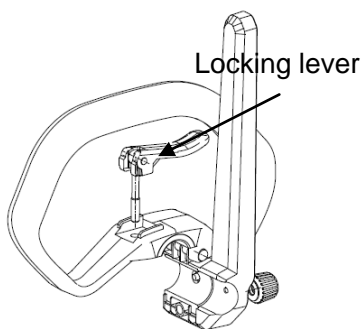

Fig.2A
1. Unscrew the locking lever from the front-assist handle. (Fig.2A)